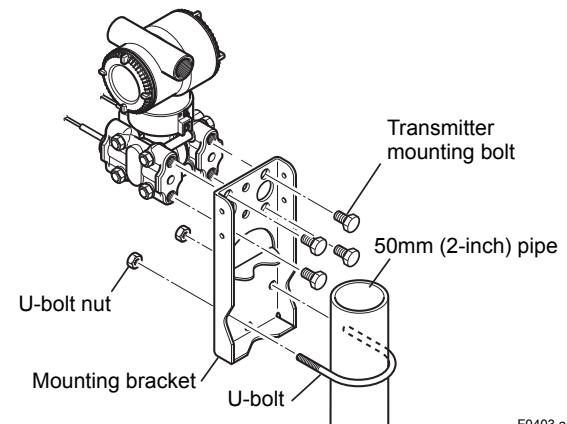

Figure 4.3 Transmitter Mounting
- The transmitter can be mounted on a nominal 50 mm (2-inch) pipe using the mounting bracket supplied, as shown in Figure 4.3. The transmitter can be mounted on either a horizontal or a vertical pipe.